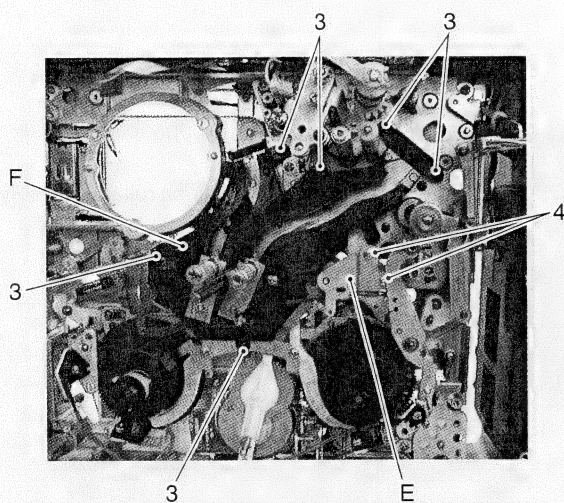

Fig. 2-7-45
3. Fix the take-up loading assembly F using the six screws 3 (see Fig. 2-7-45).